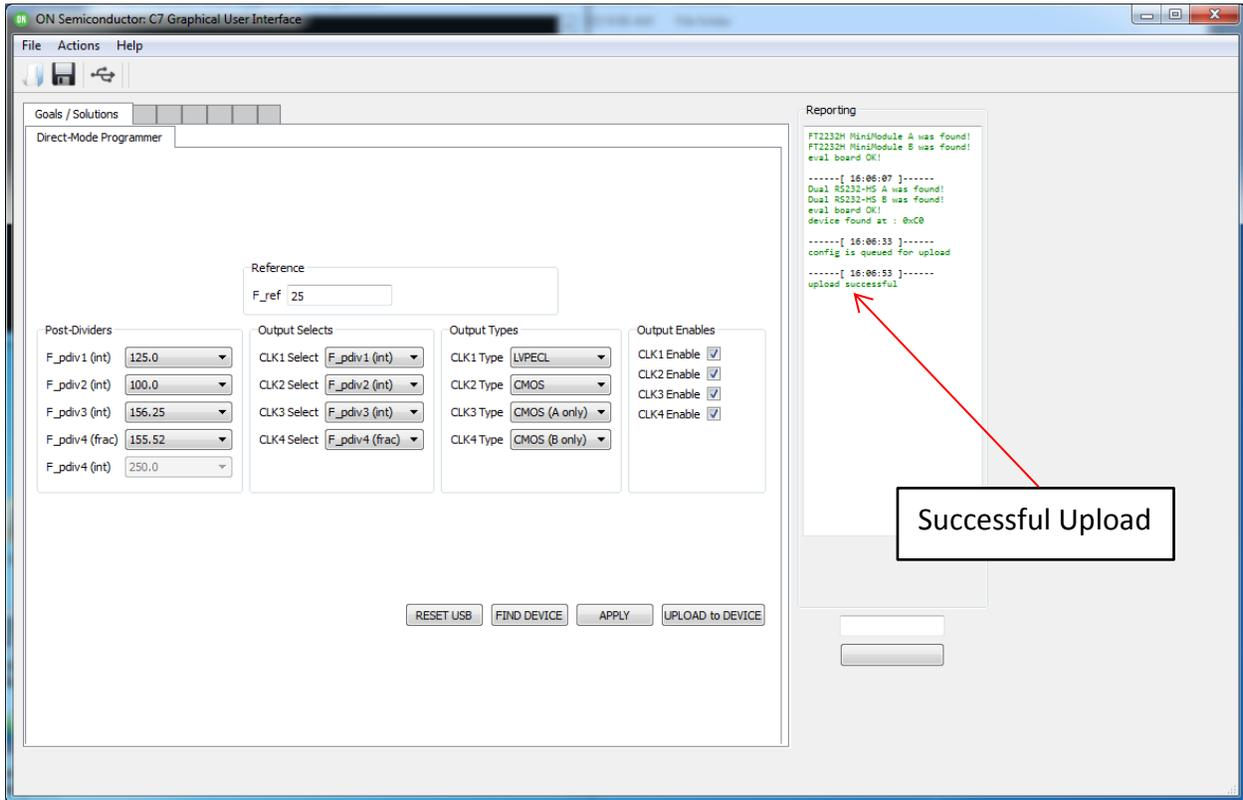

Figure 7: Successful Upload
- 4) Please note “upload successful” in the reporting window to confirm desired settings were programmed to NB3H5150. (Figure 7)